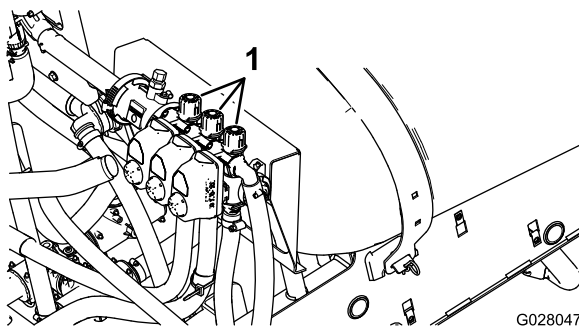

Figure 107
11. Turn off the left boom and adjust the boom-bypass knob (Figure 107) until the pressure reading is at the previously adjusted level (typically 2.75 bar or 40 psi).
13. Adjust the right boom-bypass knob (Figure 107) until the pressure reading is at the previously adjusted level (typically 2.75 bar or 40 psi).
15. Adjust the center boom-bypass knob (Figure 107) until the pressure reading is at the previously adjusted level (typically 2.75 bar or 40 psi).